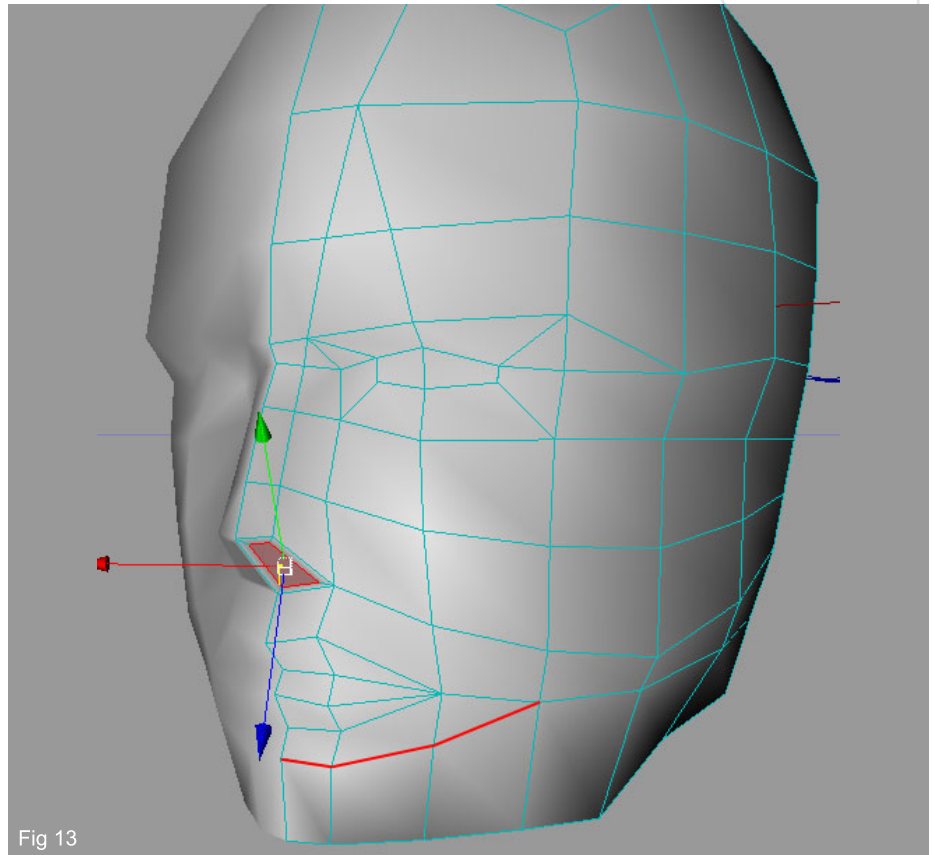

Fig 13
13. We have partially improved the eyes and so should refine the other features. Add the cut as shown in Fig 13 using the Knife Tool to create a better shape to the chin. For the nose select the polygon as shown and bevel it.